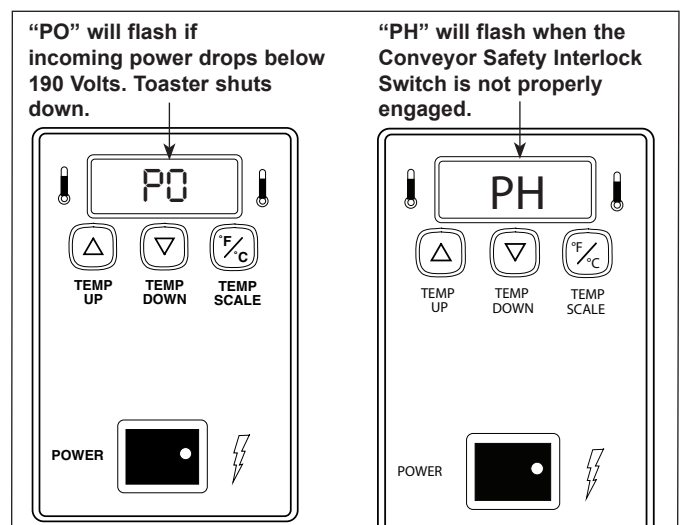

Figure 9. “PO” and “PH” Fault Messages
- If incoming power drops below 175 Volts, the heating circuits are disabled and the display will read “PO” (Figure 9). To reset, the voltage must be over 190 Volts, then the unit must be turned off and back on. If this condition repeats, contact your Authorized Service Agency.
- The “PH” fault message (Figure 9) is displayed if the A/C isolator board is defective or if there is loose wiring between the phase control and the A/C isolator board.